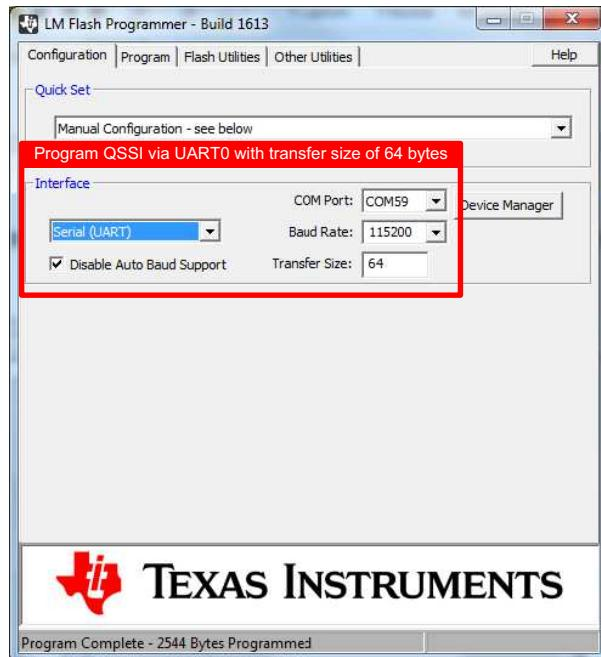
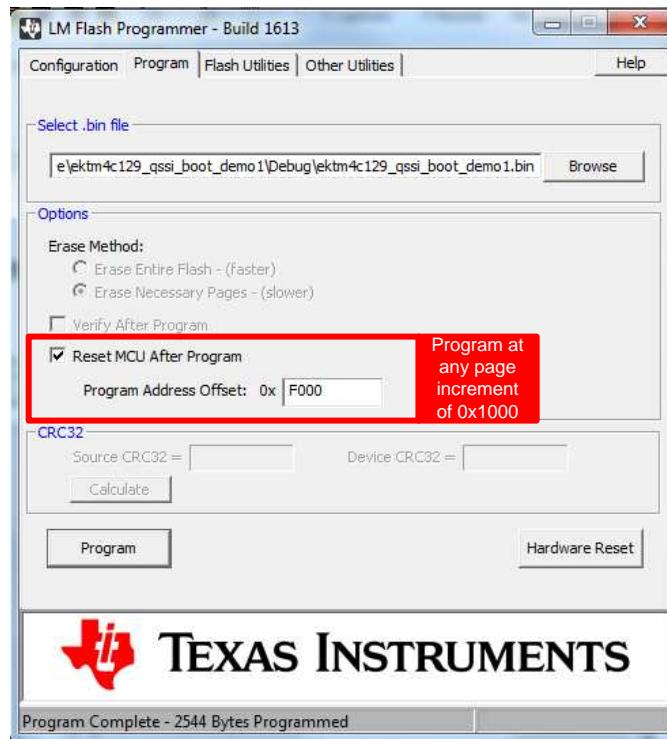

図 14. LM Flash Programmer QSSI Boot Demo1 Programming - Interface Settings (UART)
図 15. LM Flash Programmer QSSI Boot Demo 1 Programming - Options (Address Offset)
5. Using the LM Flash Programmer in serial mode, download ektm4c129_qssi_boot_demo1. Ensure Disable Auto Baud Support is checked. Select the correct COM port. Ensure the Transfer Size is 64 bytes or less. On the Program Tab, select the Program Address Offset as the start of a sector of QSSI Flash other than Sector-0. (For the setting of the LM Flash Programmer for downloading the demo code, see 図 14 and 図 15. When the demo code downloads, the LED D3 will start blinking.)